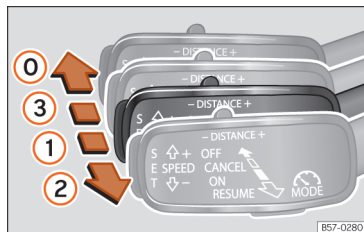
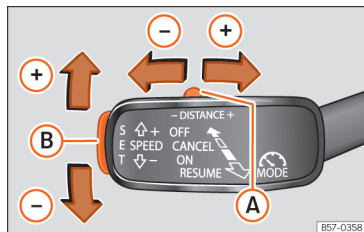

Fig. 157 On the left of the steering column: operating the ACC with the third lever.
Fig. 158 On the left of the steering column: operating the ACC with the third lever.
Your vehicle has ACC if it has a third lever to the left of the steering column »» Fig. 157.
- Move the third lever to position **ON** » **Fig. 157 1**
- To start regulation, press button **SET** »» Fig. 158 (B) or move the lever to position **RESUME** »» Fig. 157 (2).
To set the speed, move the third lever up + or down - to the desired speed »» Fig. 158. The speed is adjusted at intervals of 10 km/h [5 mph].
When the ACC is active, the lever can be moved to position **RESUME** »» Fig. 157 (2) to increase the desired speed by 1 km/h [1 mph]. You can then press **SET** to decrease it by 1 km/h [1 mph].
- Move button (A) »» Fig. 158 right or left to increase or decrease the distance.
- Move the third lever to position **CANCEL** »» Fig. 157 (3) or press the brake pedal.